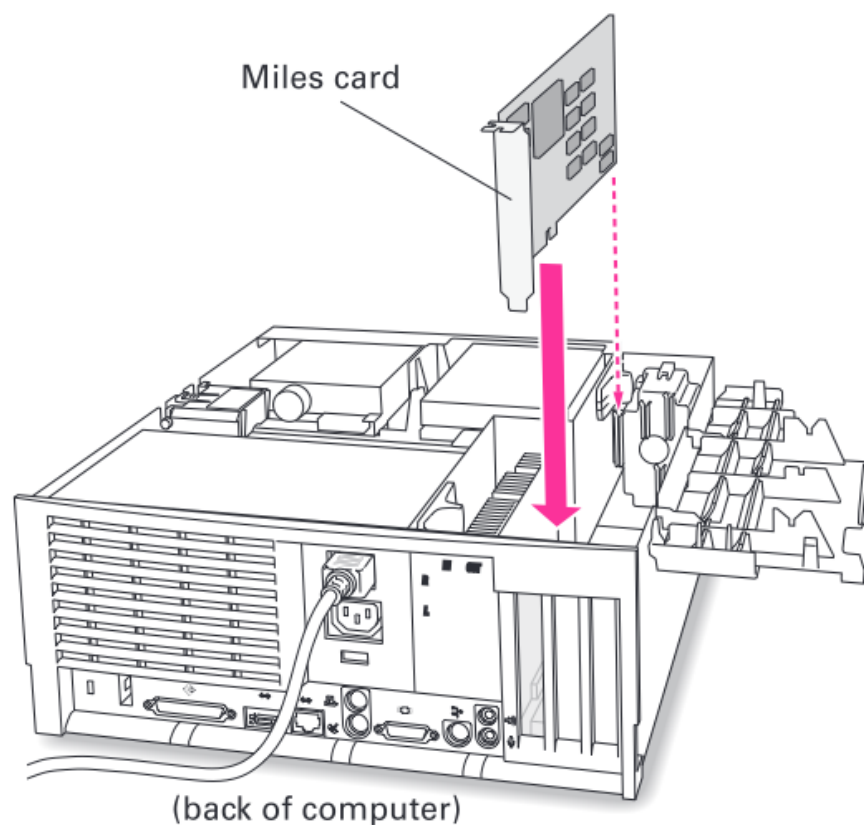

FIGURE 5 – Desktop-Model card installation
- 6 Orient the host adapter for installation so that the external connector is facing the back of the System unit and align the card with the PCI connector on the system unit (see FIGURE 5). Holding the adapter by the mounting bracket and the card edge, match up the card edge connector with the PCI host computer socket and insert the card into the socket. Once the connector is in the PCI expansion slot socket tighten the mounting bracket screw to secure the card in place.